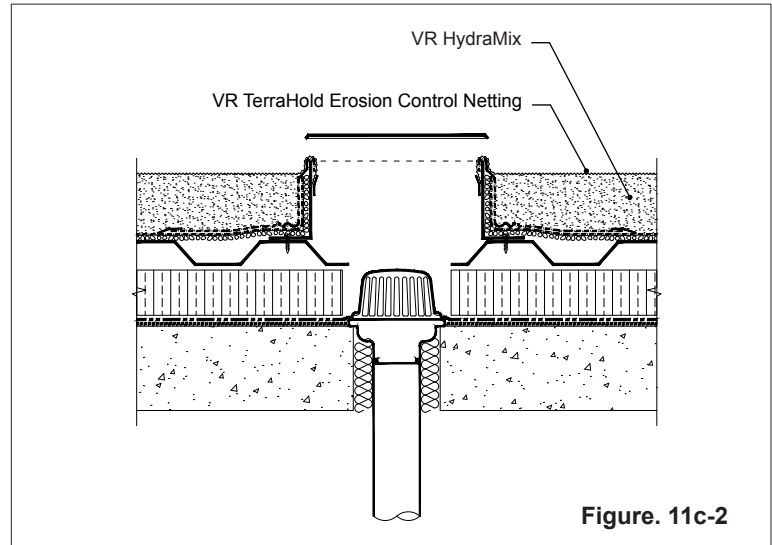

Figure 11c-2
- VR TerraHold Erosion Control Netting to be installed as indicated on drawings and details. See Figure 11c-1, Figure 11c-2 and Figure 11c-3.